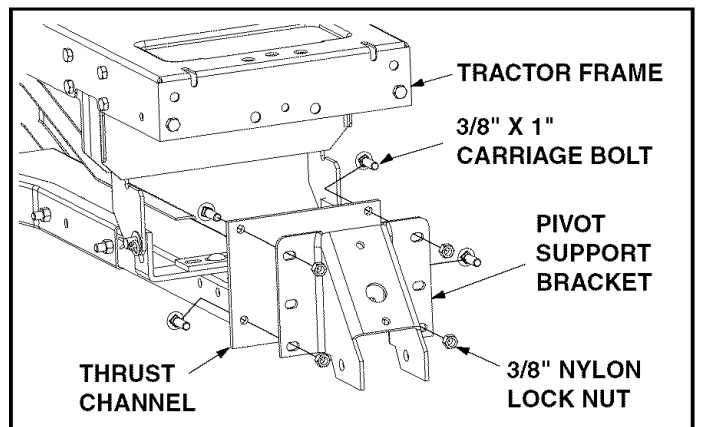

FIGURE 7
- Assemble the pivot support bracket to the front of the Thrust Channel using four 3/8" x 1" carriage bolts and four 3/8" nylon lock nuts. Make sure the bracket is straight and then **tighten**. See figure 7.